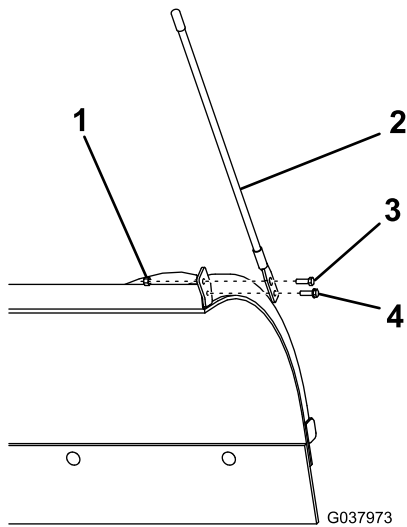

Figure 7
1. Attach the blade guides to the plow blade using 2 bolts (5/16 inch), 2 self-tapping bolts, and 2 self-locking nuts (Figure 7).